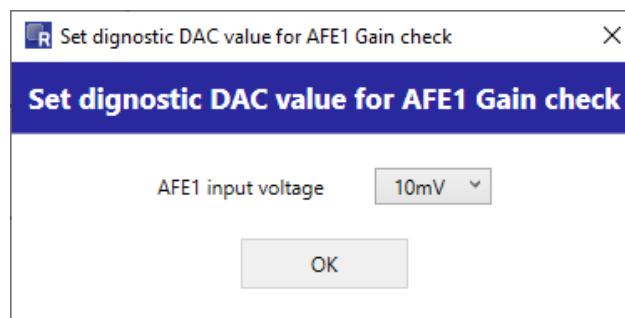

Figure 181. Input for AFE Gain Check
- Click on 'Get'. The 'Set diagnostic DAC value for AFE(x) Gain check' window pops-up (see Figure 181).